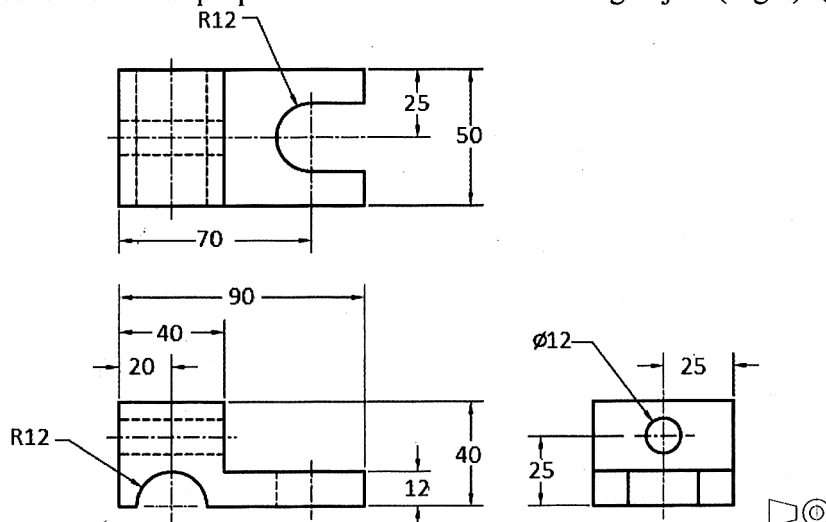

Fig. 2
3. Draw the Isometric view with proper dimension of the following object (Fig.2). (CO2) **18**